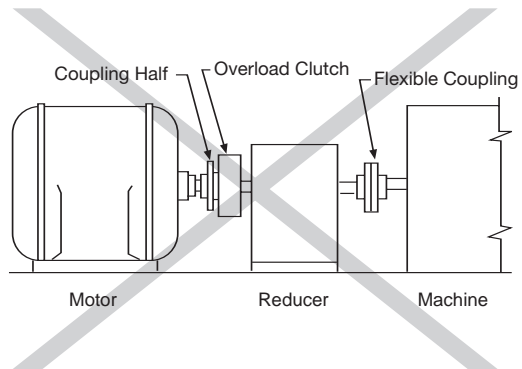
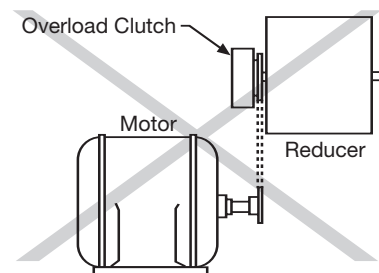

Figure 8
Figure 10
- b. Locating the clutch as shown in Figure 8 is not preferred. Here the clutch is mounted on the high-speed side of the reducer. Generally, mounting in this manner requires the clutch to be too hypersensitive to perform satisfactory.
- b. The mounting location in Figure 10 is not preferred for the same reasons as those for Figure 8. Always consult the factory when a mounting of this type is necessary.